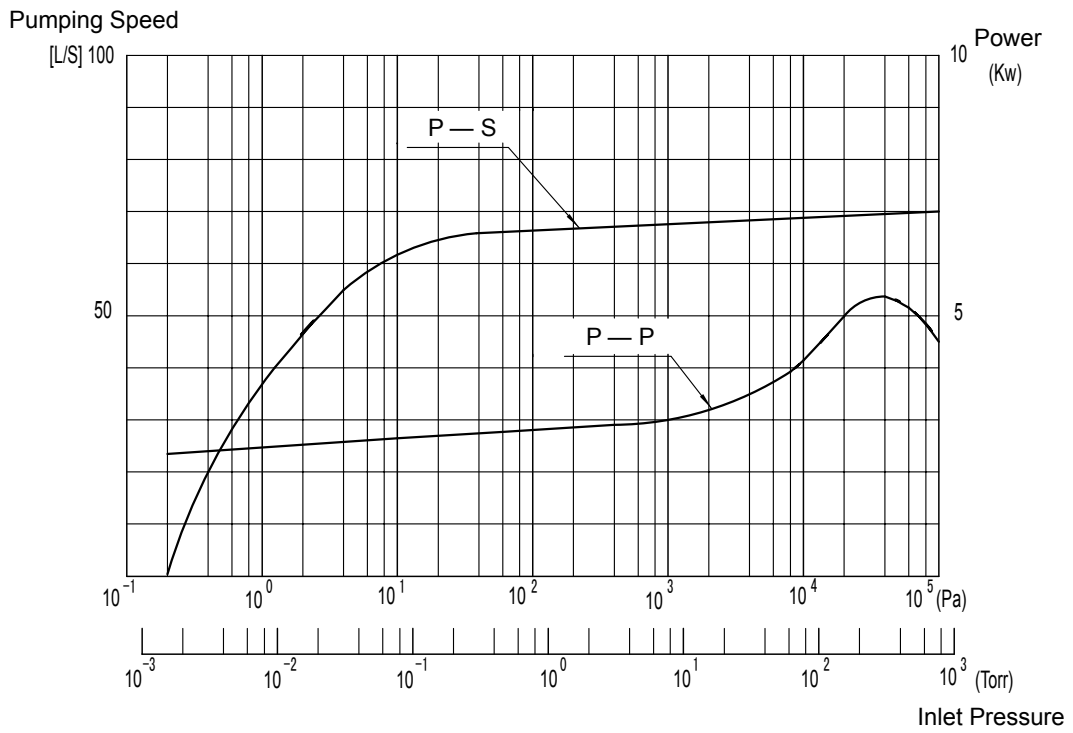

Fig. 4 Curve of pumping speed and power consumption versus inlet pressure for HGL-70
- (3) Curve of pumping speed and power consumption versus inlet pressure for HGL-70 (refer to figure4);